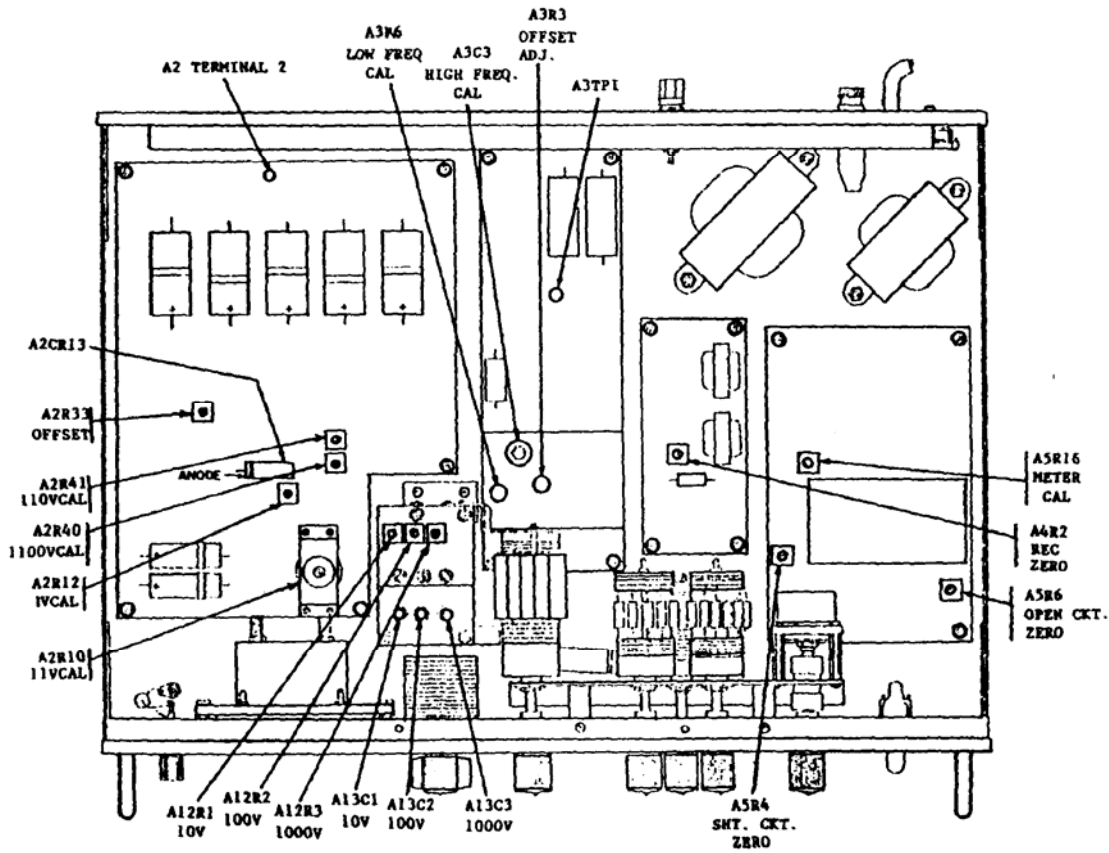

Figure 1. Differential voltmeter - adjustment locations.
- c.** Set switches as listed in (1) through (3) below:
- (1) **RANGE** to **1**.
- (2) **MODE** to **DC+**.
- (3) **NULL SENS** to **TVM**.
- g.** Short TI **INPUT HI** and **LOW**. If TI does not indicate center scale (zero), adjust A5R4 SHT CKT ZERO (fig. 1) until TI indicates center scale.
- h.** Remove short from TI **INPUT HI** and **LOW**. If TI does not indicate center scale (zero), adjust A5R6 OPEN CKT ZERO (fig. 1) until TI indicates center scale.
- i.** Connect multimeter **INPUT HI** and **LO** to TI rear panel **RECORDER OUTPUT** and **GND**. If multimeter does not indicate  $0 \pm 0.1$  V dc, adjust A4R2 REC ZERO (fig. 1) until multimeter indicates  $0 \pm 0.1$  V dc (R).
**b. Adjustments.** Set calibrator for a 1.0 V output. Adjust A5R16 METER CAL (fig. 1) until TI indicates +1 (R).
(1) Set calibrator for a 10 V dc output. Adjust A2R10 11VCAL (fig. 1) until TI indicates null (R).
(2) Set calibrator for a 1 V dc output. Adjust A2R12 1VCAL (fig. 1) until TI indicates null (R).
(3) Set calibrator for a 100 V dc output. Connect multimeter **INPUT HI** and **LO** across A2CR13 (fig. 1) (**LO** to **ANODE**). Adjust A2R33 OFFSET (fig. 1) until multimeter indicates 0 ±0.005 V. Disconnect multimeter.
(4) Adjust A2R41 110VCAL (fig. 1) until TI indicates a null (R).
(5) Set calibrator for a 1000 V dc output. Adjust A2R40 1100VCAL (fig. 1) until TI indicates a null (R).
- (1) Set **NULL SENS** switch to **TVM** and disconnect calibrator from TI.
- (2) Short TI **INPUT HI** and **LOW**.
- (3) Connect multimeter **INPUT HI** to A3TP1 (fig. 1) and **LO** to A2 terminal 2. Adjust A3R3 **OFFSET ADJ.** (fig. 1) until multimeter indicates between 2.4 and 2.6 V dc when adjustment tool is removed from A3R3 **OFFSET ADJ.** (fig. 1).
- (4) Disconnect multimeter and remove short from TI **INPUT HI** and **LOW**.
- (5) Connect calibrator **OUTPUT HI** and **LO** to TI **INPUT HI** and **LOW**.
- (6) Set calibrator for a 1 V, 200 Hz output. Set **NULL SENS** switch to each successively more sensitive position and adjust A3R6 **LOW FREQ CAL** (fig. 1) until TI indicates a null (R). Repeat a 1) through (3) above.
- (7) Set calibrator for a 1 V, 20 kHz output. Adjust A3C3 **HIGH FREQ. CAL** (fig. 1) until TI indicates a null (R).
- (8) Set calibrator for a 10 V, 200 Hz output. Adjust A12R1 **10V** (fig. 1) until TI indicates a null (R).
- (9) Set calibrator for a 10 V, 20 kHz output. Adjust A13C1 **10V** (fig. 1) until TI indicates a null (R).
(10) Set calibrator for a 100, 200 Hz output. Adjust A12R2 100V (fig. 1) until TI indicates a null (R).
(11) Set calibrator for a 100, 20 kHz output. Adjust A13C2 100V (fig. 1) until TI indicates a null (R).
(12) Set calibrator for a 1000, 200 Hz output. Adjust A12R3 1000V (fig. 1) until TI indicates a null (R).
(13) Set calibrator for a 1000, 20 kHz output. Adjust A13C3 1000V (fig. 1) until TI indicates a null (R).